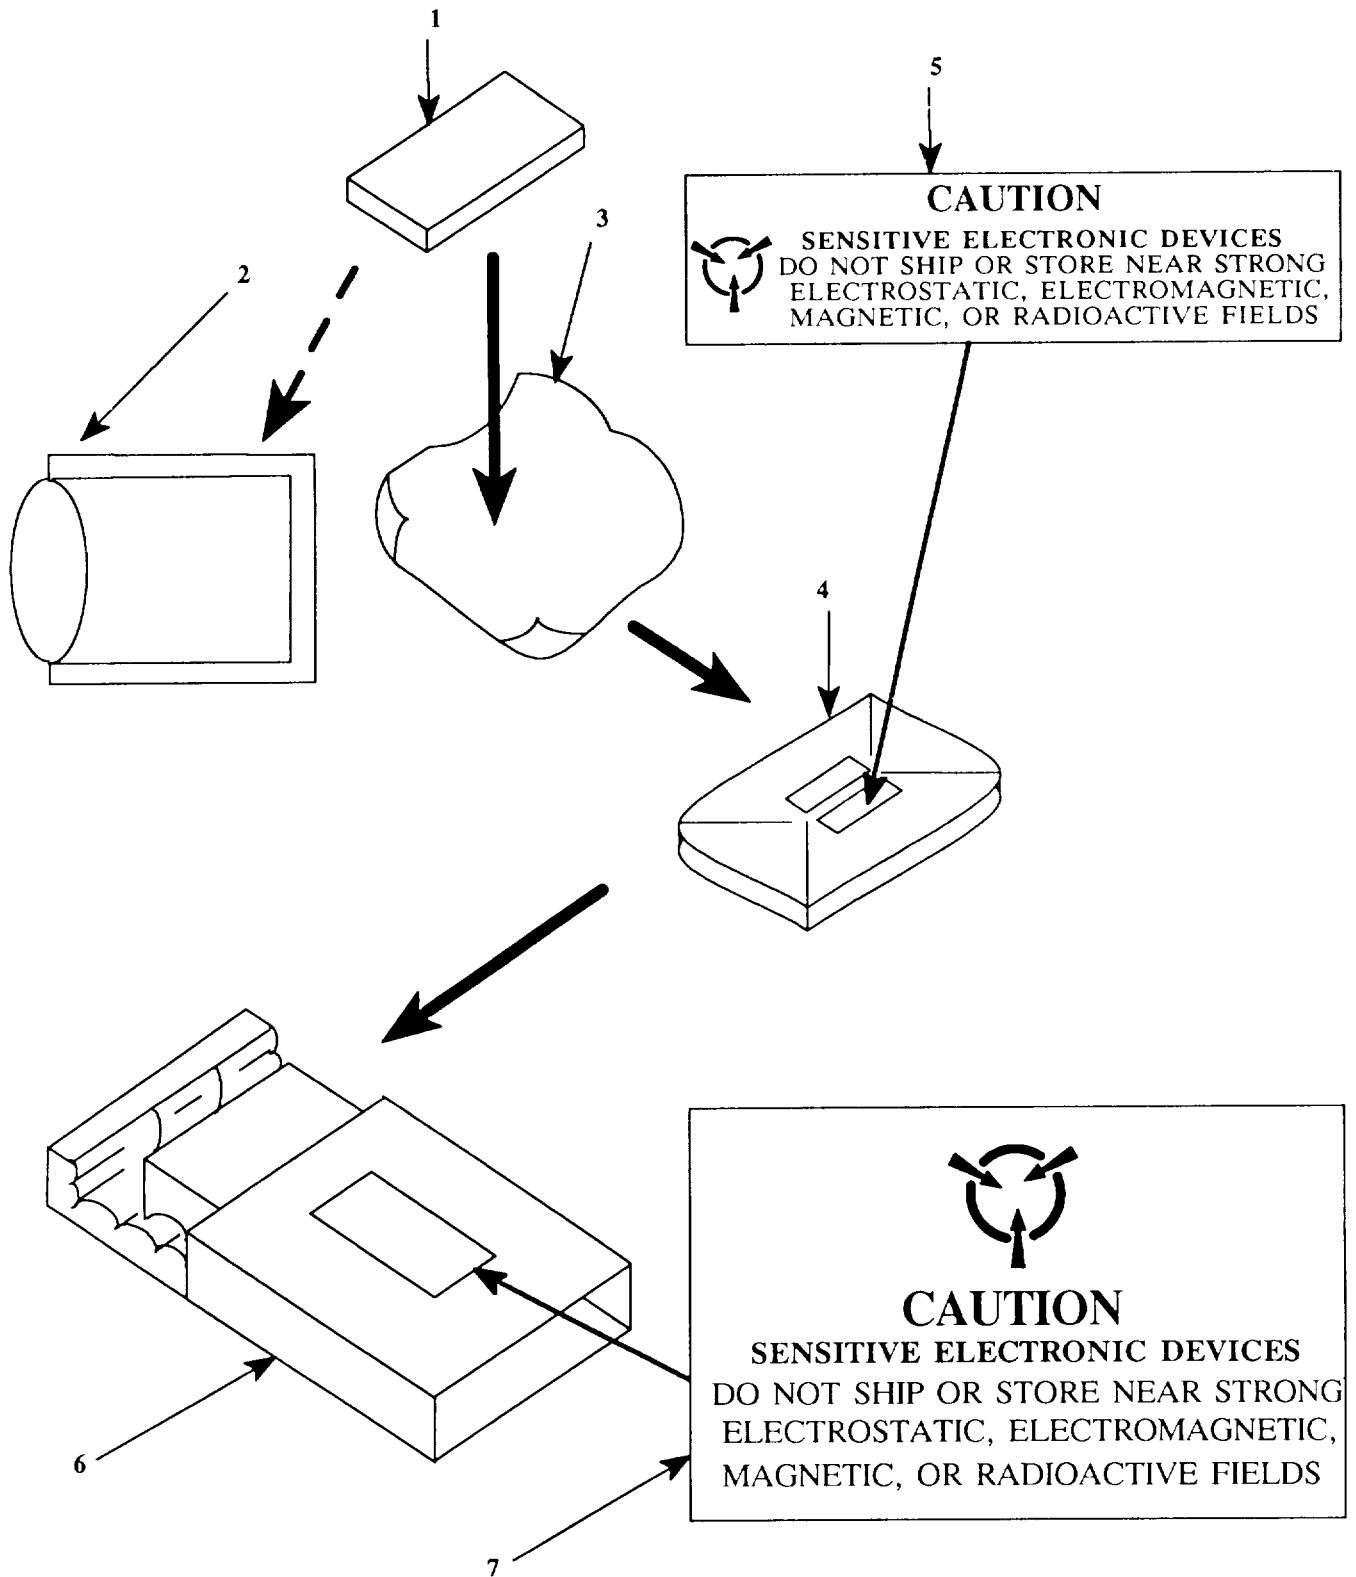

Figure 6-44. Packing Static Sensitive Modules
a. Module (1)	a. Place inside antistatic bag (2) or inside antistatic wrapping material (3), See figure 6-44.
b. Antistatic package (4)	b. Seal with adhesive tape. Attach "sensitive electronic device" unit pack label (5).
c. Antistatic package (4)	c. Place inside approved shipping container (6).
d. Shipping container (6)	d. Attach "sensitive electronic device" intermediate pack label (7).